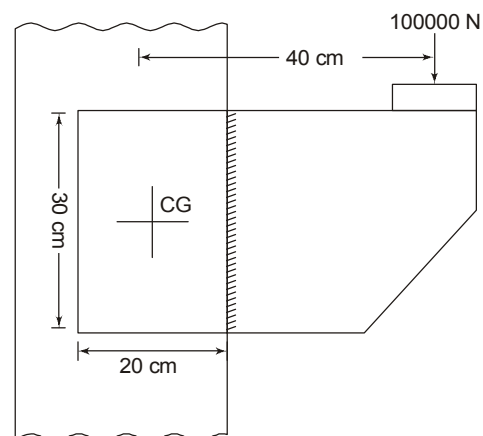

Fig. 5
- (b) Calculate the size of the weld required for the welded bracket loaded as shown in Fig. 5. (15)